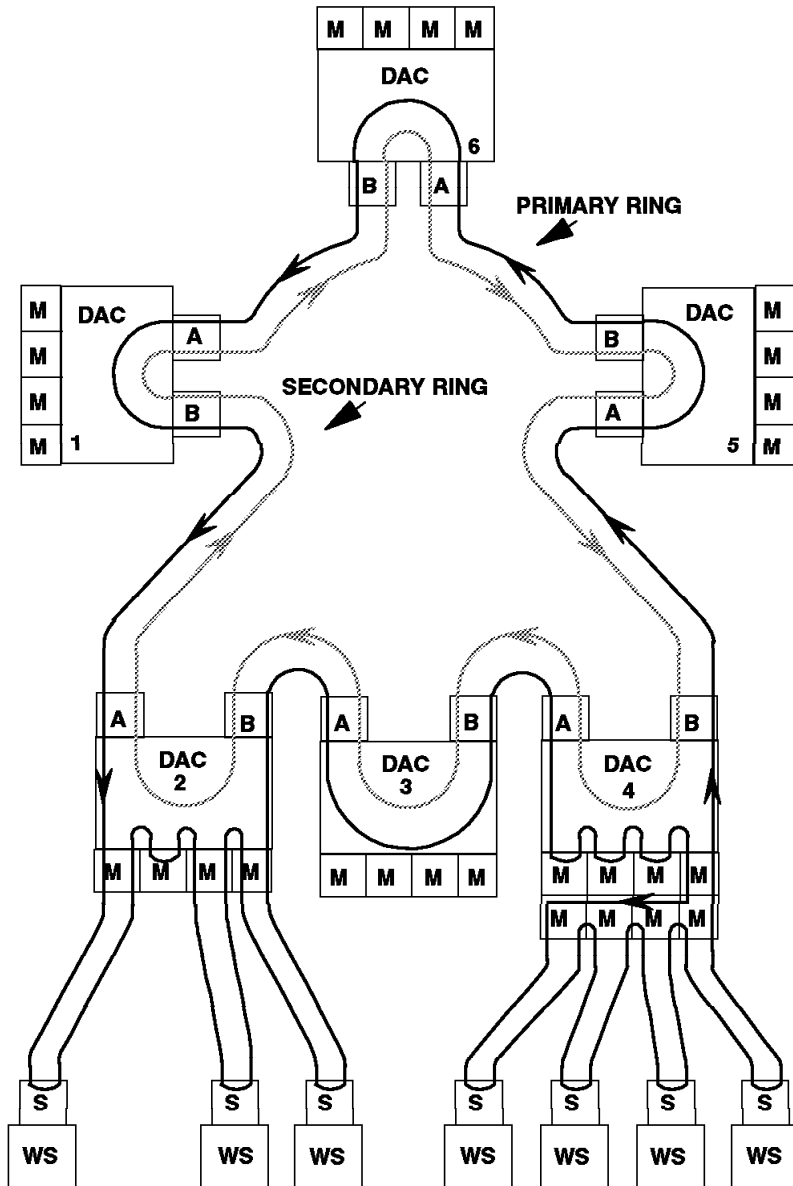

Figure 22. Dual Access Concentrator and Workstations
Figure 22 on page 41 shows the topology of workstations attached to a Dual Attachment Concentrator (DAC). Each workstation is attached as a Single Attachment Station (SAS) to the master port (M) of a concentrator (DAC). The M port attaches each SAS to the primary ring.